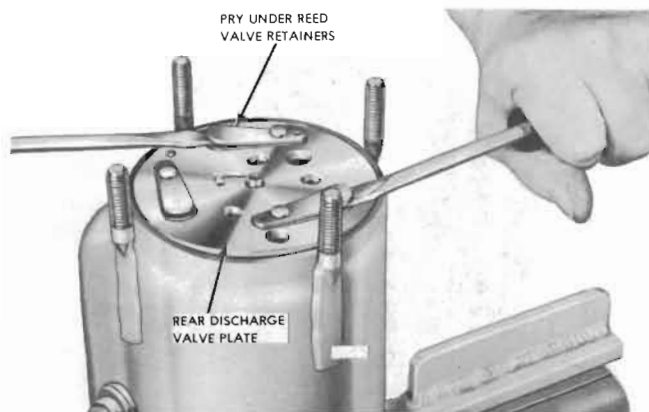

Figure 13-36 Removing Rear Discharge Valve Plate
9. Carefully pry out rear discharge valve plate and rear suction valve reed disc with screwdrivers (see Figure 13-36 and 13-37). Check both pieces and replace as necessary.